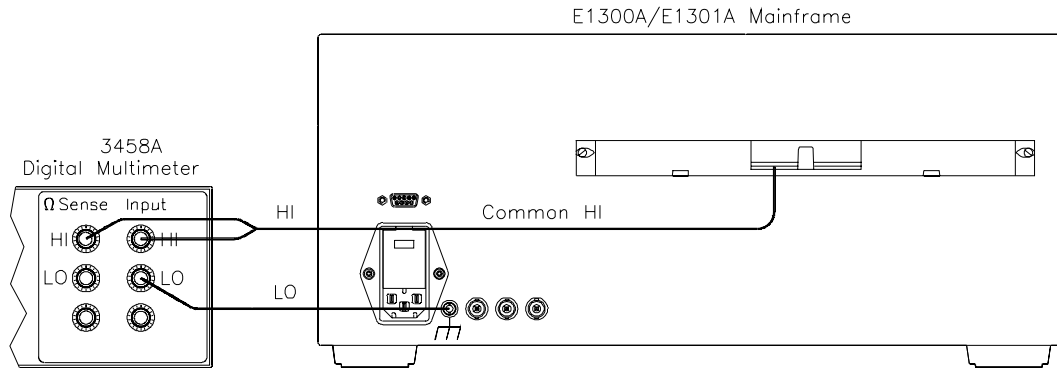

Figure 2-9. HI to Chassis Isolation Connections
1. Make hardware connections as shown in Figure 2-9